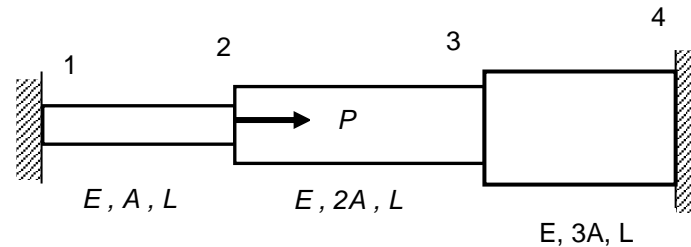

Figure 6a
4. (a) Write down the element stiffness matrices and global matrix for the three bars assembly which is loaded with force P , and constrained at the two ends in terms of E , A and L as shown in **Figure 6a**.